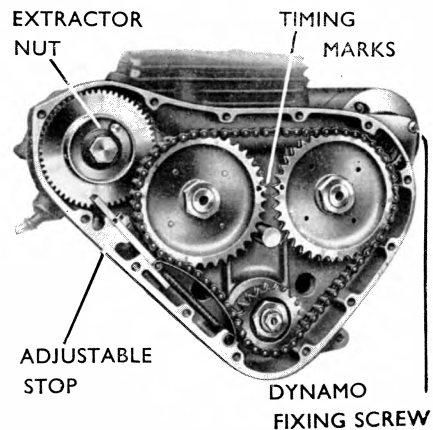

Fig. 3. (See page 20.)
**The Flange-mounted magneto**, with its automatic ignition timing control, is gear driven from the rear camshaft. The twin cylinder magneto runs at half engine speed. The gear, complete with ignition control unit, can be withdrawn from the magneto spindle by un-screwing the central hexagon sleeve nut extractor. (See Fig. 3, and exploded view). Riveted to each camshaft chain sprocket is the gear for driving the Magneto and Dynamo respectively. These gears are manufactured from a special "Millenite" metal. The chain sprockets are identical and interchangeable but the driving gears are machined as follows. "MILLENITE" gear for magneto 59 teeth, "MILLENITE" gear for dynamo 57 teeth.
Three special extractors are desirable (it can be done with one) to withdraw the sprockets with chain in position from their shafts. Screw the extractors home and rotate each central screw of the extractor equally and in turn so that all three sprockets are drawn off together. (See Fig. 3.)